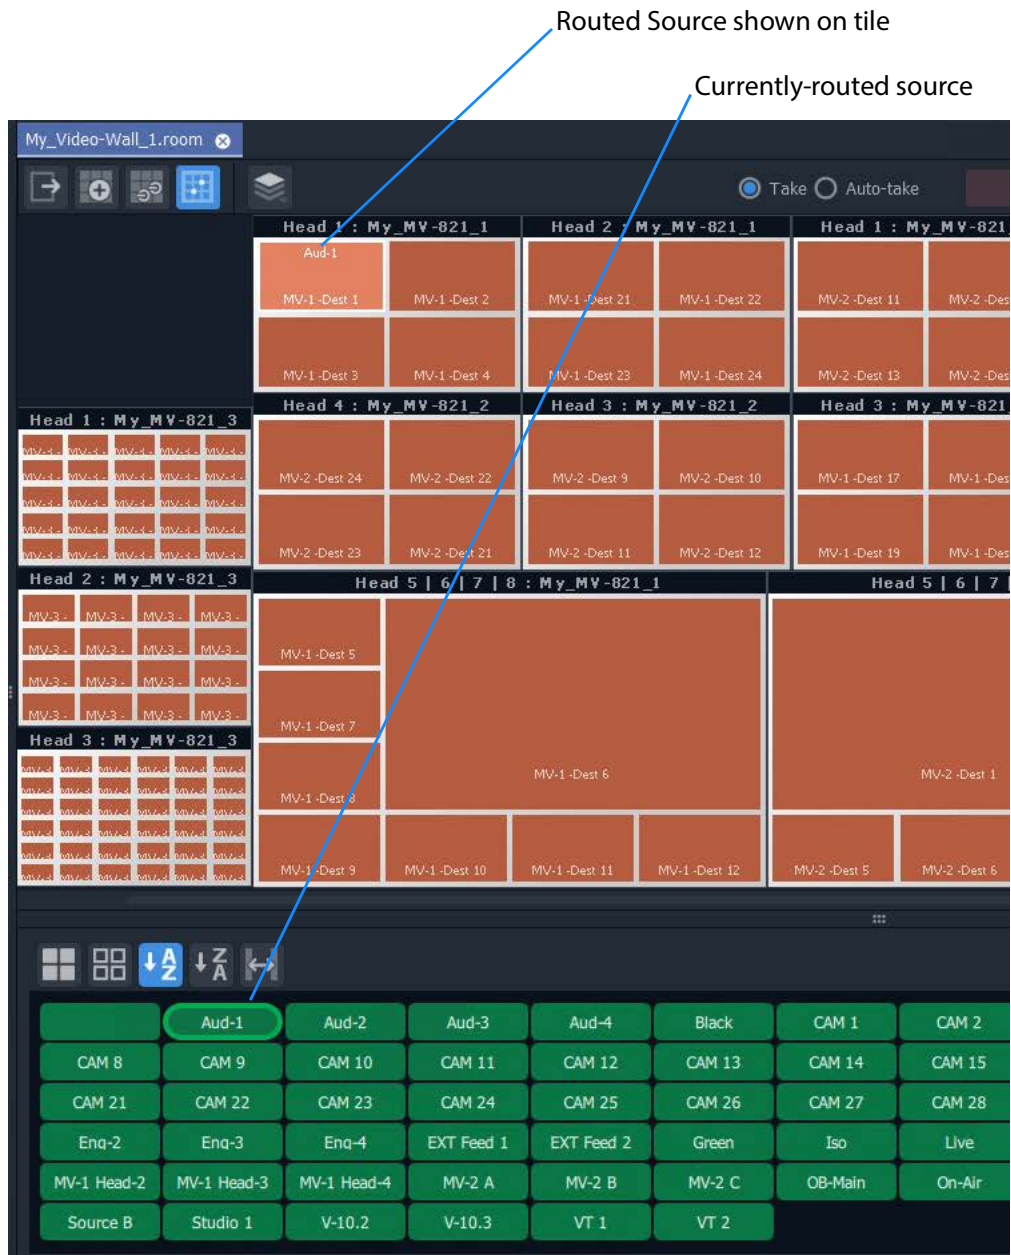

Fig. 15-79: Routed Result
- a) the selected tile position (see Figure 15-79); and also to